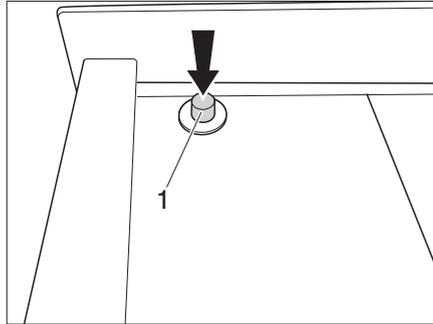

Fig. 5 Central locking - Locking
► Push the push button (Fig. 5,1). The flaps and drawers of the kitchen block are locked. The push button is recessed.